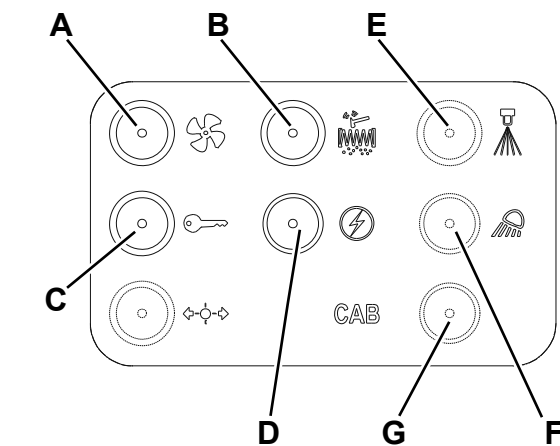

Figure 8
3. Turn the ignition key (57) to "O" and remove it.
4. On the panel (38), check for deactivation of one of the following fuses:
- (A, Fig. 8): F1 fuse (10 A), dust vacuuming
- (B): F2 fuse (10 A), filter shaker
- (C): F4 fuse (16 A), ignition key
- (D): F5 fuse (10 A), motor auxiliary
- (E): F3 fuse (2 A), dust guard system (if equipped)
- (F): F6 fuse (10 A), working lights (optional)
- (G): F8 fuse, cab blower (if present)